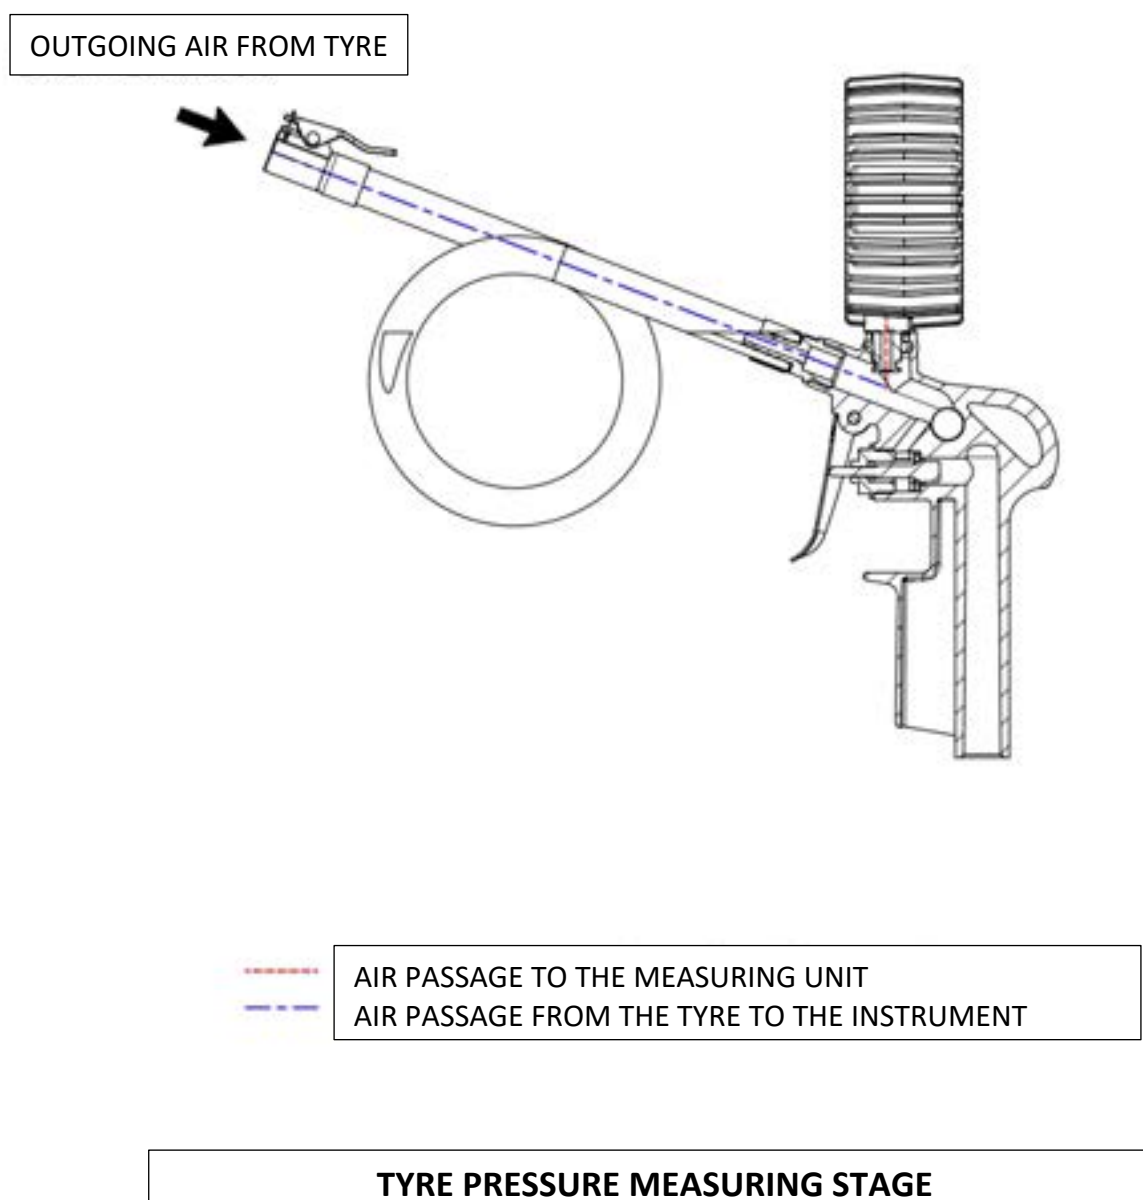

FIG. 2 – TYRE PRESSURE GAUGE “60 D/T” (vers. 63 mm)
- **Tyre pressure measuring stage (Fig. 2)**